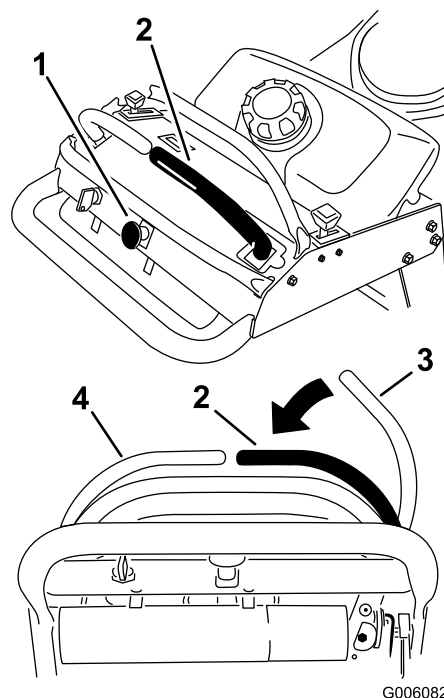

Figure 9
1. To engage the mower blades, move the right side motion control lever to the center, un-locked position (Figure 9).